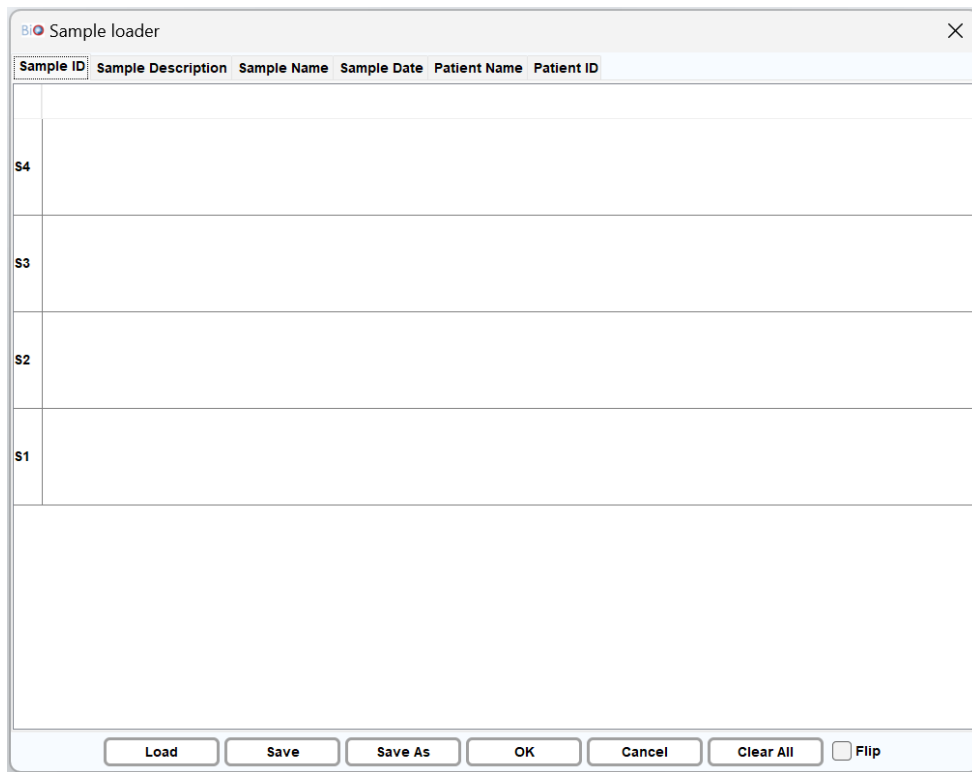

Figure 20 Sample Loader Window
Notes for samples can be edited on the Sample Loader window (Figure 20). After clicking on **Edit**, the Sample Loader window will appear on the screen. Use the **Load** button to enter multiple sample descriptions, the **Clear All** button to delete all sample information, and the **Save** button to save the edited sample information. After entering the required information such as time and serial number, click **OK** to start the process.
***Note:** The information of the samples in the excel sheet must follow the sequence shown in Figure 20. An example file can be found in the installation directory. The default workspace is C:\Users\\Q-Analyzer\Sample.